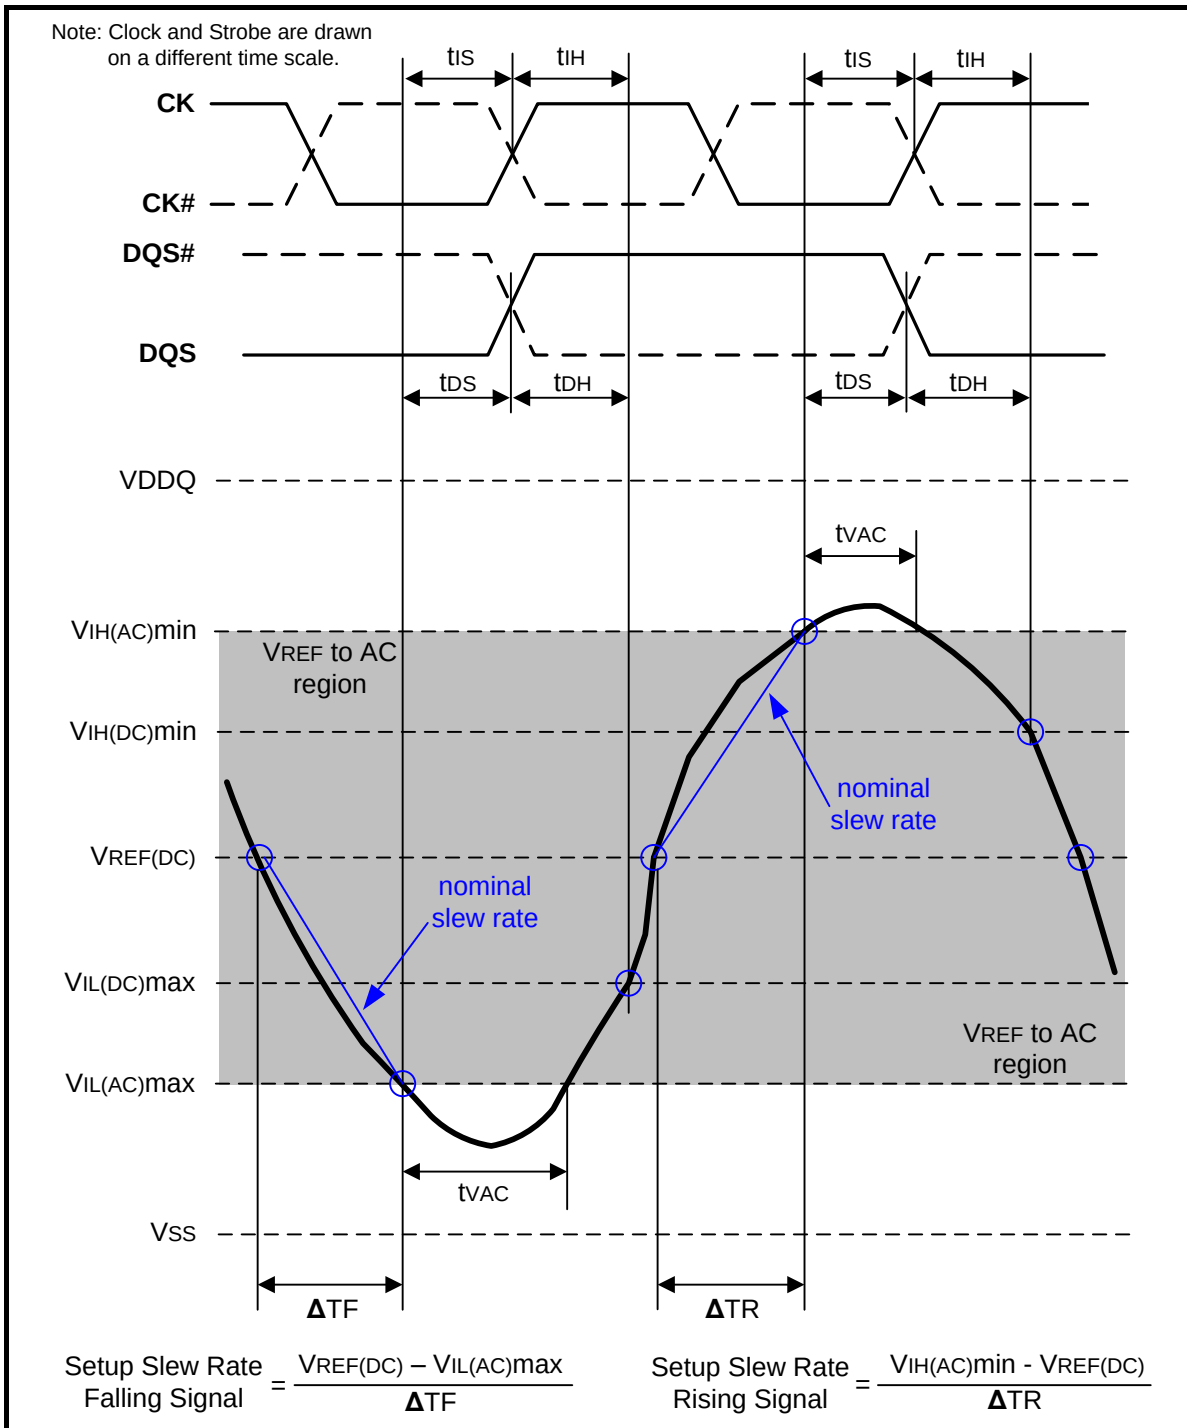
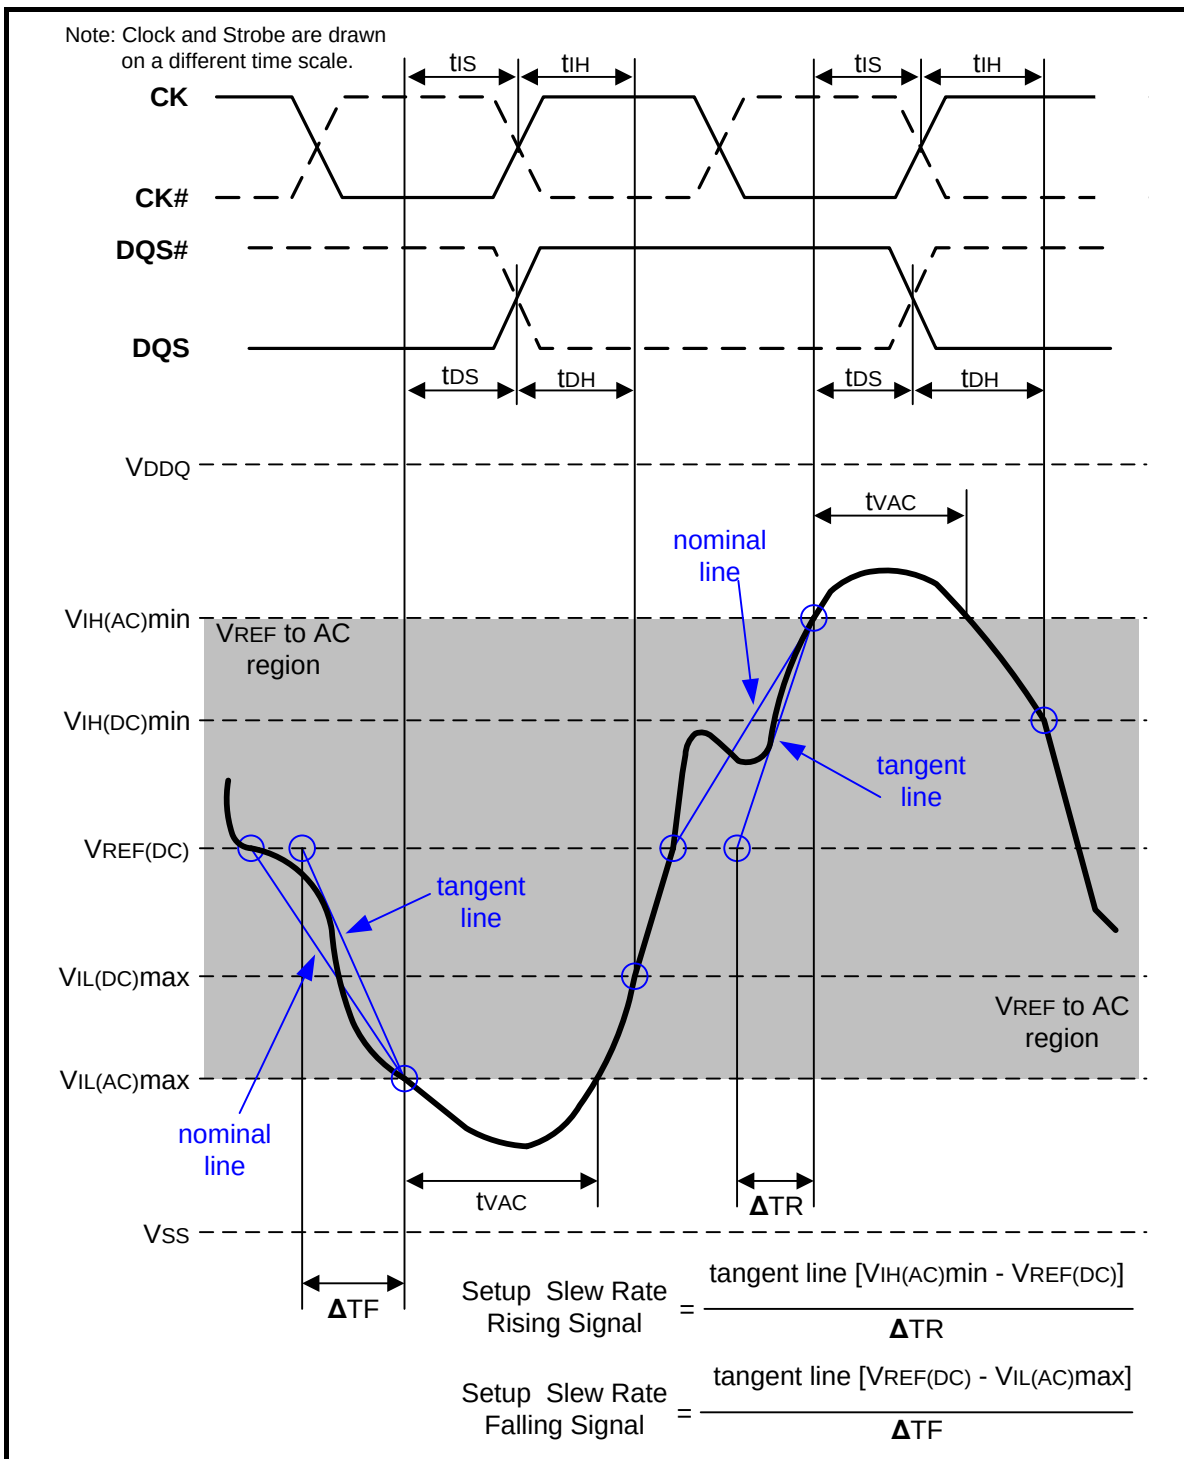

Figure 107 – Illustration of nominal slew rate and t_{VAC} for setup time t_{DS} (for DQ with respect to strobe) and t_{IS} (for ADD/CMD with respect to clock)
Figure 109 – Illustration of tangent line for setup time t_{DS} (for DQ with respect to strobe) and t_{IS} (for ADD/CMD with respect to clock)
Setup (t_{IS}) nominal slew rate for a rising signal is defined as the slew rate between the last crossing of $V_{REF}(\text{DC})$ and the first crossing of $V_{IH}(\text{AC})_{\text{min}}$. Setup (t_{IS}) nominal slew rate for a falling signal is defined as the slew rate between the last crossing of $V_{REF}(\text{DC})$ and the first crossing of $V_{IL}(\text{AC})_{\text{max}}$. If the actual signal is always earlier than the nominal slew rate line between shaded 'VREF(DC) to AC region', use nominal slew rate for derating value (see Figure 107). If the actual signal is later than the nominal slew rate line anywhere between shaded 'VREF(DC) to AC region', the slew rate of a tangent line to the actual signal from the AC level to $V_{REF}(\text{DC})$ level is used for derating value (see Figure 109).
Setup (t_{DS}) nominal slew rate for a rising signal is defined as the slew rate between the last crossing of $V_{REF}(\text{DC})$ and the first crossing of $V_{IH}(\text{AC})_{\text{min}}$. Setup (t_{DS}) nominal slew rate for a falling signal is defined as the slew rate between the last crossing of $V_{REF}(\text{DC})$ and the first crossing of $V_{IL}(\text{AC})_{\text{max}}$ (see Figure 107). If the actual signal is always earlier than the nominal slew rate line between shaded 'VREF(DC) to AC region', use nominal slew rate for derating value. If the actual signal is later than the nominal slew rate line anywhere between shaded 'VREF(DC) to AC region', the slew rate of a tangent line to the actual signal from the AC level to $V_{REF}(\text{DC})$ level is used for derating value (see Figure 109).